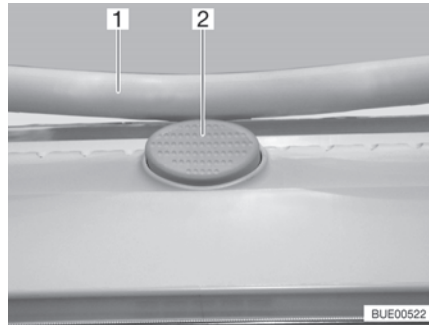

Fig. 51 Safety knob (Heki skylight)
- Press the safety knob (Fig. 51,2) and pull the bar (Fig. 51,1) down with both hands.
- Push the bar upwards with both hands until it is above the safety knob (Fig. 51,2).